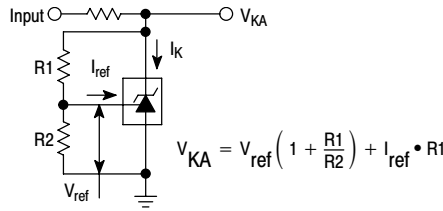

Figure 2. Test Circuit for  $V_{KA} > V_{ref}$
- The dynamic impedance ZKA is defined as: |ZKA| =  $\frac{\Delta V_{KA}}{\Delta I_K}$ . When the device is programmed with two external resistors, R1 and R2, (refer to Figure 2) the total dynamic impedance of the circuit is defined as: |ZKA'| ≈ |ZKA| (1 +  $\frac{R1}{R2}$ )
6. The dynamic impedance ZKA is defined as  $|Z_{KA}| = \frac{\Delta V_{KA}}{\Delta I_K}$  When the device is programmed with two external resistors, R1 and R2, (refer to Figure 2) the total dynamic impedance of the circuit is defined as:  $|Z_{KA}'| \approx |Z_{KA}| \left( 1 + \frac{R_1}{R_2} \right)$